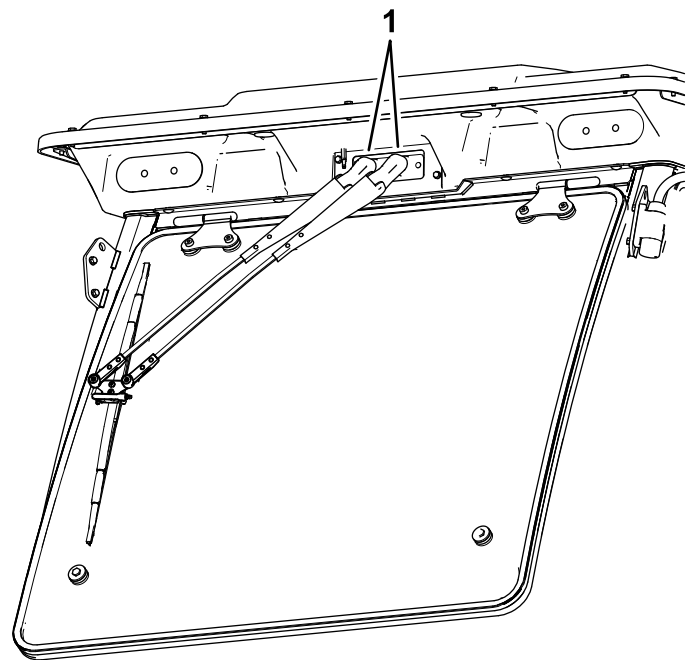

Figure 83
1. Open the caps at the top of the wiper arms (Figure 83).